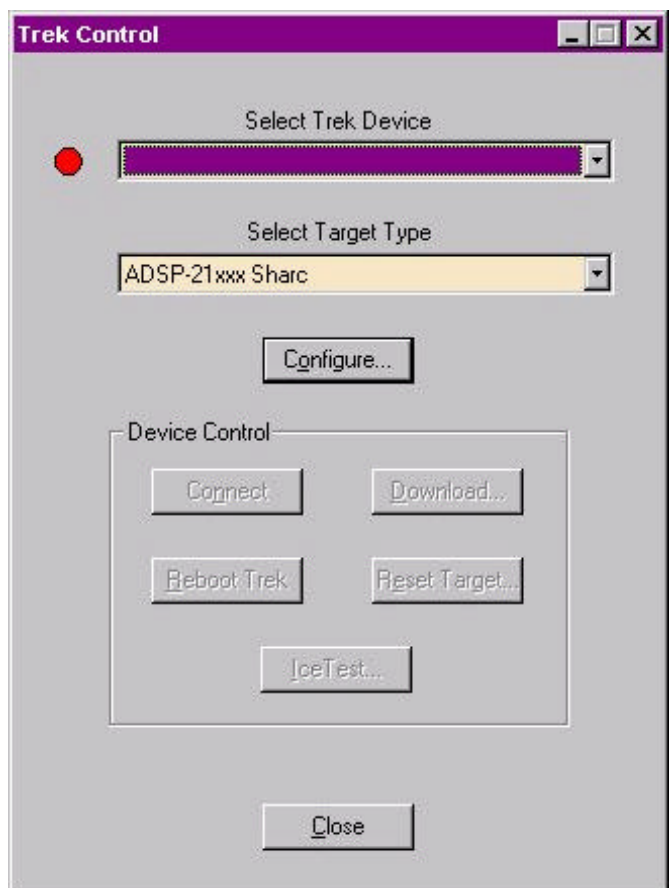

Figure 6. Trek Control Utility
2. Start the TrekControl software from the Windows Start button, Start⇒Programs⇒VisualDSP⇒TrekControl. Figure 6 shows the initial dialog.
Start⇒Programs⇒VisualDSP⇒TrekControl. Figure 6 shows the initial dialog.
2. Click on the Target Type pull down list (see figure 6) and select the appropriate target type.
2. If the TrekControl software isn't currently running, start it from the Windows Start button, Start⇒Programs⇒VisualDSP⇒TrekControl. Figure 6 shows the initial dialog.
1. If the TrekControl software isn't currently running, start it from the Windows Start button, Start⇒Programs⇒VisualDSP⇒TrekControl. Figure 6 shows the initial dialog.